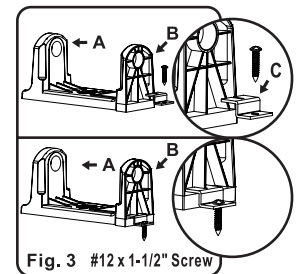

Fig. 3 #12 x 1-1/2" Screw
Caution! When using bracket for ceiling or wall mounting - Anti Tamper Support Clip(C) must be installed. Install Anti-Tamper Support Clip(C) as shown in Fig 3. Screw (#12 x 1-1/2") is supplied for installation.